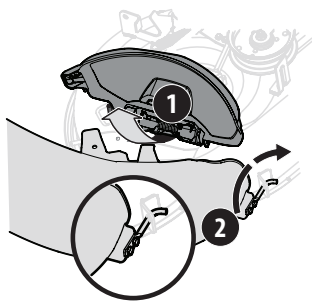

Figure 20
3. With the tractor's mulch plug raised up and held open (1), install the boot (731-20072) by placing the boot mounting rod into the hole provided in either your deck wheel bracket or boot mounting tab (2), as shown in Figure 20.
5. Release the mulch plug, making sure to rest it on the boot bracket previously installed on the boot. See Figure 20.